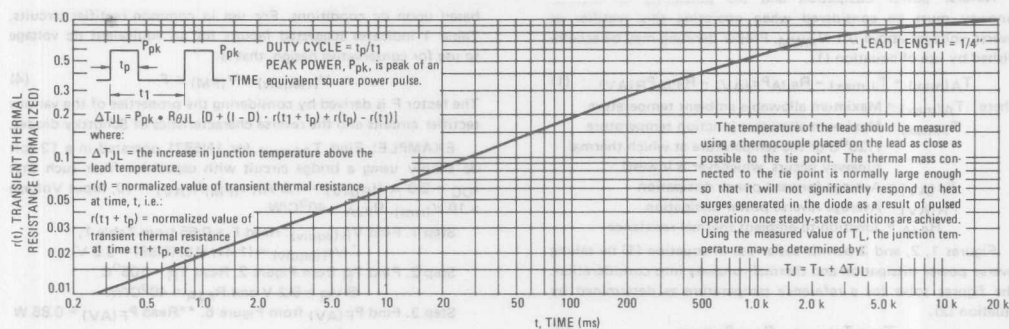

FIGURE 6 – FORWARD POWER DISSIPATION
Step 3. Find $P_F(AV)$ from Figure 6. **Read $P_F(AV) = 0.85 \text{ W}$